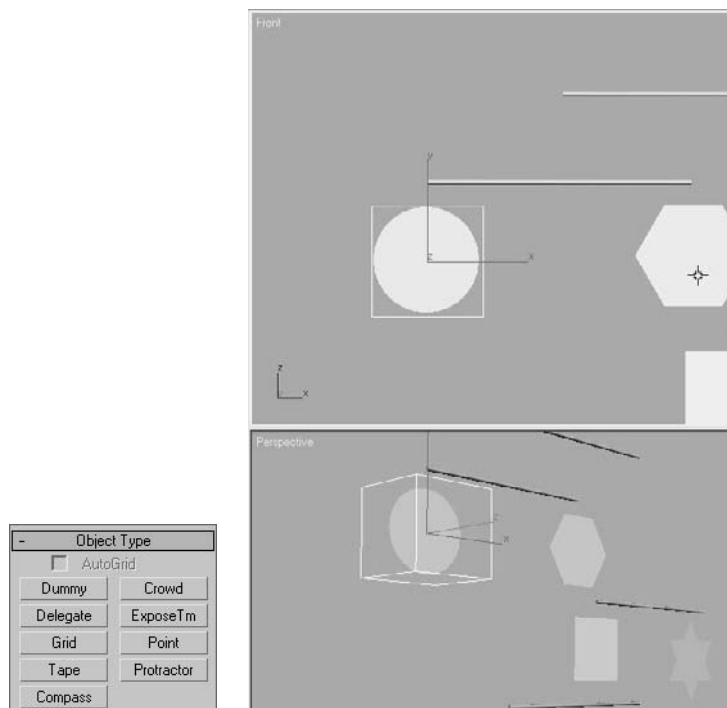

Figure 8.11
1. Go to the Create panel. In the Helpers (  ), click Dummy (Figure 8.11).